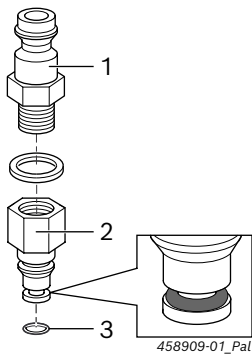

Fig. 2: Installing the return adapter 1 687 016 138
1. Screw the coupling nipple (Fig. 2, item 1) into the adapter (Fig. 2, item 2) with the flat sealing ring (A10 x 13.5) and tighten it.
2. Insert the o-ring (Fig. 2, item 3) into the slot.